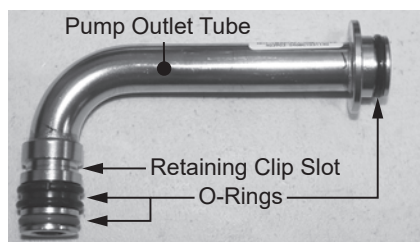

Figure 185 - Pump outlet tube O-rings
- Locate new pump outlet tube and three (3) O-rings provided in the kit. The pump outlet tube uses one (1) 14 x 2.5 O-ring on the inlet side, one (1) 14 x 7 double seal O-ring on the inlet side, and one (1) 15 x 2.5 O-ring on the outlet side. Install O-rings to tube. Install tube to water pump and secure with retaining clip. Install tube to water connection and secure with spring clip (size 25). Proceed to **Step 33** if not replacing water pump. See Figure 185.
The pump outlet tube uses one (1) 14 x 2.5 O-ring on the inlet side, one (1) 14 x 7 double seal O-ring on the inlet side, and one (1) 15 x 2.5 O-ring on the outlet side. See Figure 185.